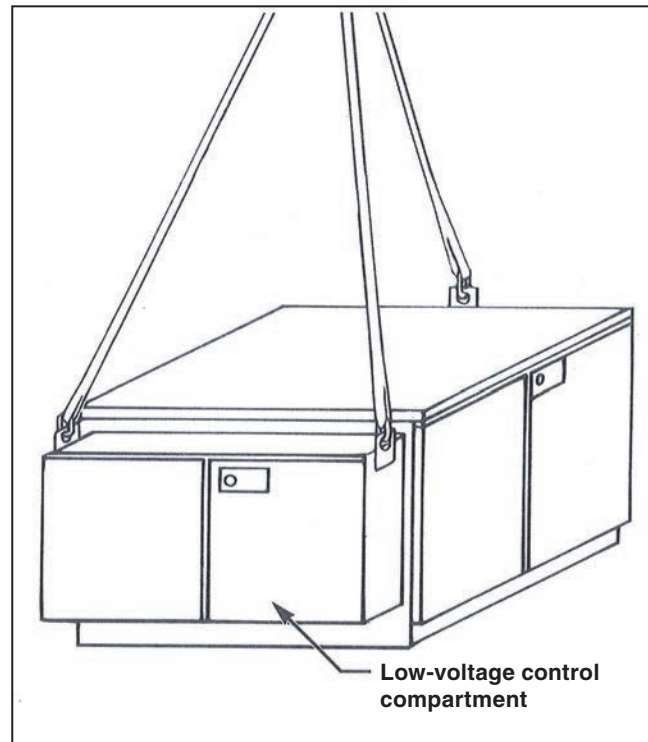

Figure 1. The hoist sling arrangement.
STEP 3. Arrange the hoist slings to distribute the lifting forces equally between the lifting tabs. See Figure 1.